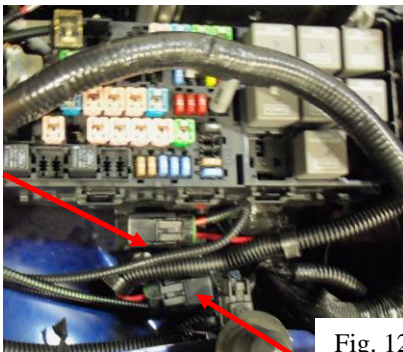

Fig. 12
- 33) Next, run the fuse holders up through the radiator support, and towards the passenger side of the fuse box (Fig. 11). The fuse holders should be mounted to the two bolts that attach the fuse box to the fender well. The fuse holder with the shorter lead should be mounted with the wires towards the firewall (Fig. 12).